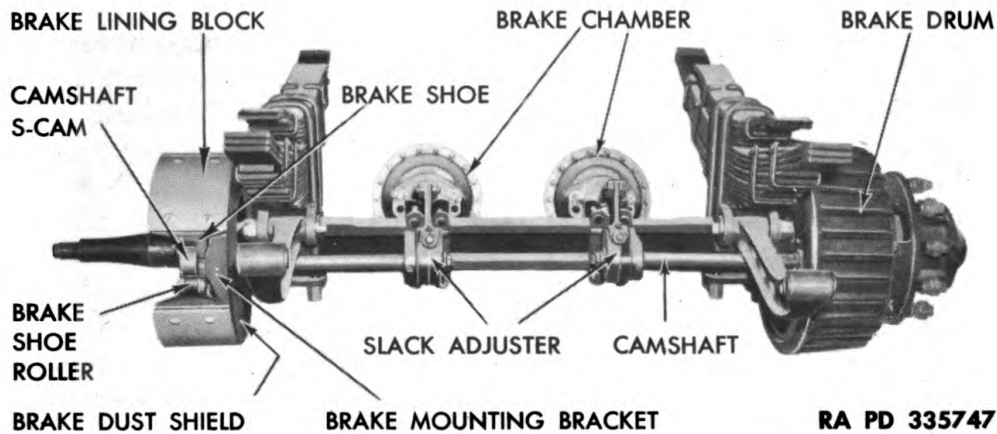

Figure 19—Axle Assembly and Braking Mechanism
opposed cam bracket by four bolts, clamping both brake chamber bracket and cam bracket to the axle (fig. 19). The brake chambers are operated by the air system, acting directly on the slack adjuster arms. The camshafts terminate in S-heads between the brake shoe rollers and communicate the braking force through the brake shoes to the brake drums of the wheel, hub, and drum assemblies. Effective braking action is accomplished only when each unit of the combined braking system is in good mechanical condition and properly adjusted in relation to its dependent units. **NOTE:** *The air brake system of the semitrailer is dependent upon the air brake system of the tractor truck for its air supply and control. The air brake system of the tractor truck must be in good condition; otherwise, it will be impossible to obtain good brake performance on the semitrailer.*
c. Replace Brake Shoe Rollers and Roller Shafts. The brake shoe roller is located on the unanchored end of the brake shoe. The roller is held in position upon a shaft (fig. 19). The shaft is retained in the brake shoe mounting by three heavy prick punch marks on each side. The roller shafts may be driven out and new rollers or shafts replaced without removing the brake shoe assembly. When the new roller and shaft has been replaced, the shaft must be re-anchored with heavy prick punch marks.